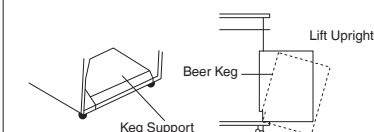

fig. 5
5. Carefully tilt the keg and rest the edge on the keg base board on the bottom of the interior cabinet. Slide the beer keg slowly, ensuring that it is properly located (Fig. 5 - below) and carefully close the door.